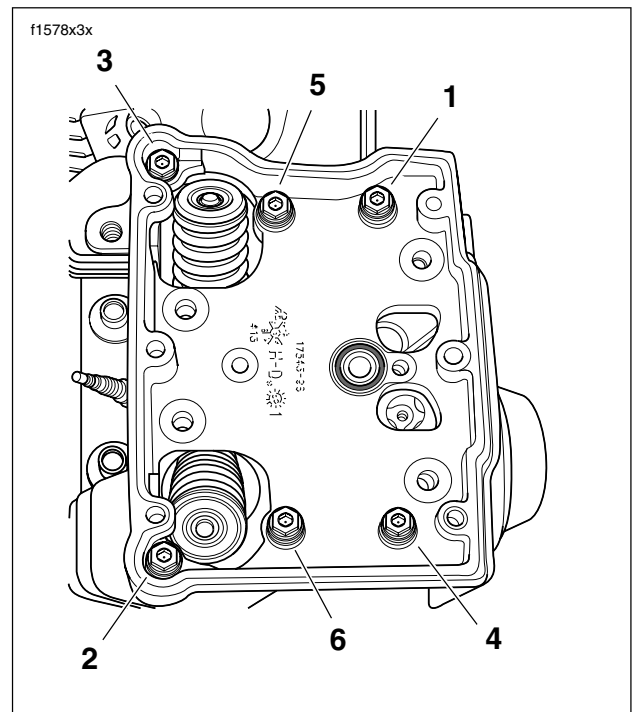

Figure 3-5. Rocker Housing Torque Sequence
8. See Figure 3-5. Snug bolts in torque sequence to hold housing in position. Do not torque.
11. Tighten rocker housing bolts to 120-168 **in-lbs** (13.6-18.9 Nm) in the pattern shown in **Figure 3-5**.